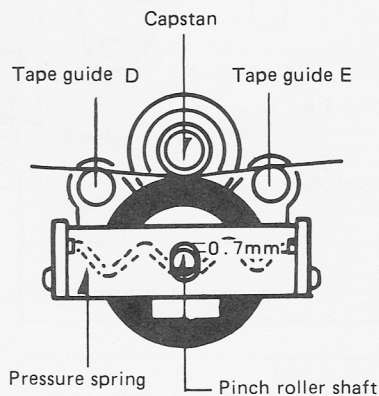

Fig. 15
3. The pinch roller shaft has an automatic pressure regulator. Adjust the shaft to the position shown in Fig. 15.